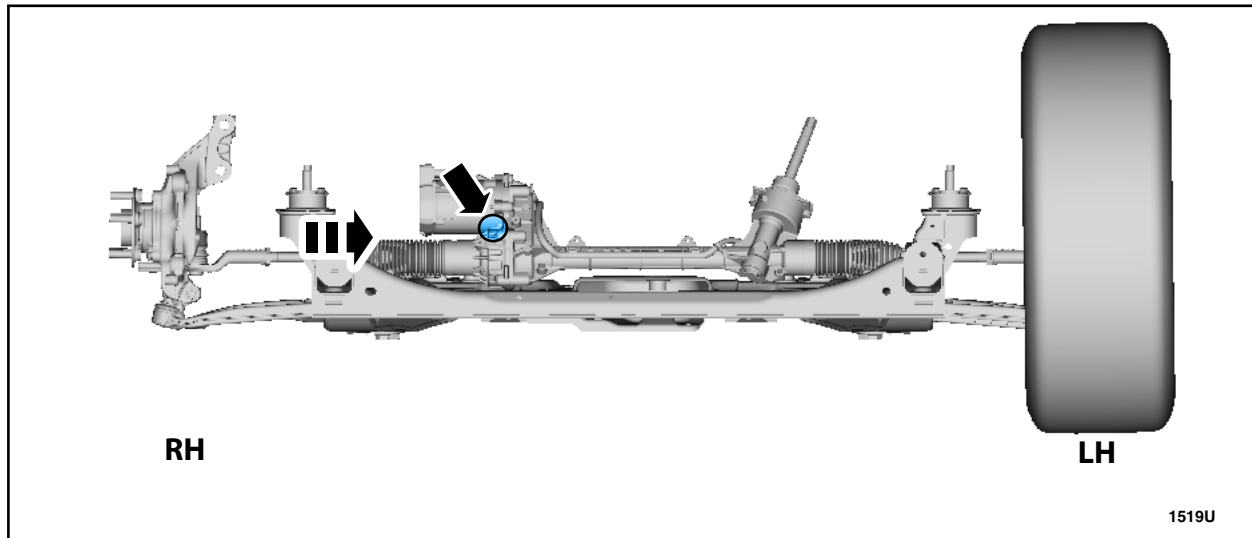

FIGURE 15
2. Working from inside the RH wheelwell, insert spray nozzle under motor and forward between motor and gear. Apply corrosion inhibitor to the housing and gear motor seam, gear motor and housing bolts five and six heads, threads and thread holes. See Figures 15 and 16.